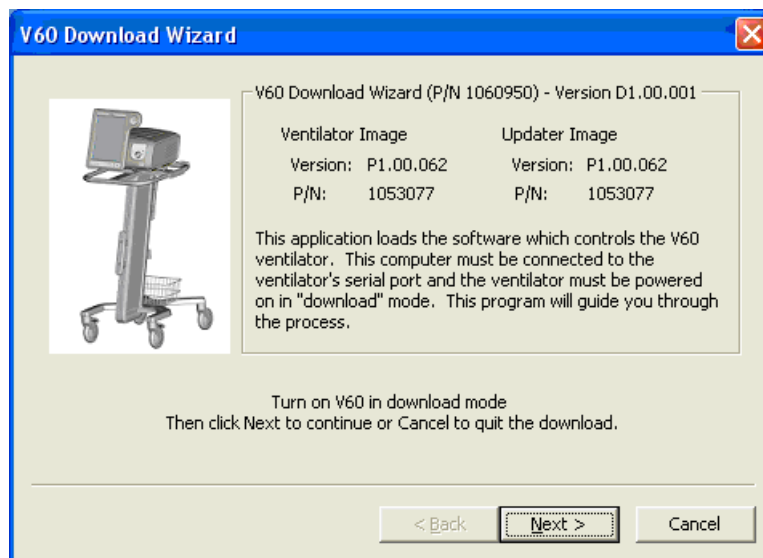

Figure A-14: V60 Installation Program
10. When the V60 ventilator is in download mode, click **Next** to continue or **Cancel** to exit (Figure A-14).